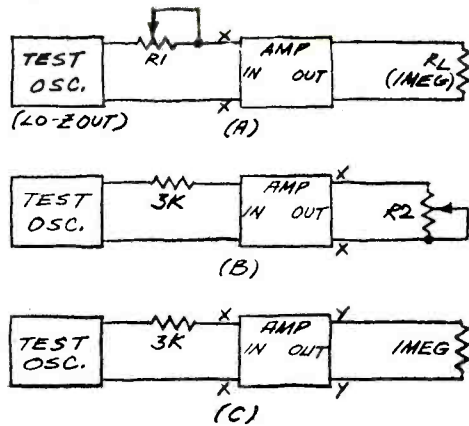

Fig. 9. Testing input/output impedances.
• 8. You may not wish to perform this last step, but if you have an audio generator, use the hookups shown in Fig. 9 to measure the important parameters of the circuit. Figure 9A is used to measure input impedance. Adjust $R1$ until the voltage at the input is half its maximum value. (The value of $R1$ should be greater than the estimated input impedance of the amplifier.) Then remove $R1$ and measure its rotor-to-end resistance.